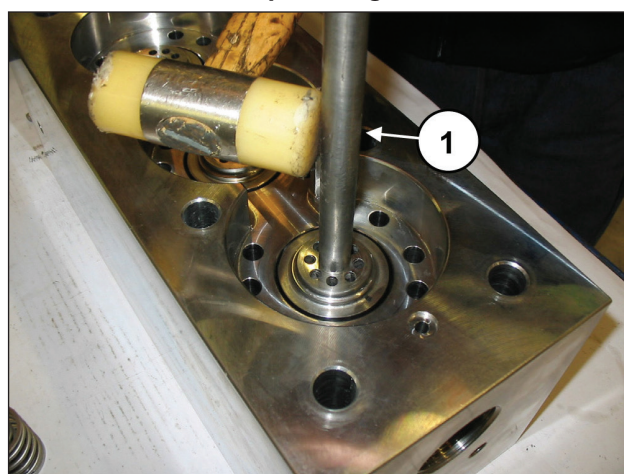

Fig. 104
If the valve seats are blocked on the head due to the formation of scale or oxide, they must be freed by inserting the tool (code 034300020) in the outlet hole (pos. ①, Fig. 104).